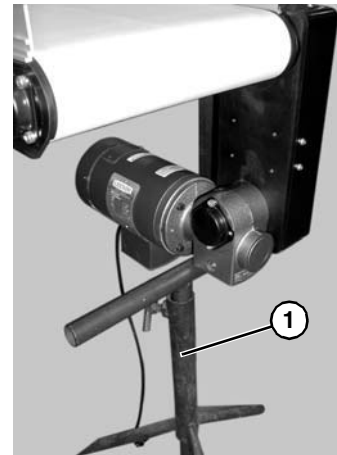

Figure 59
- Use a temporary support (**Figure 59, item 1**) to support Gearmotor.